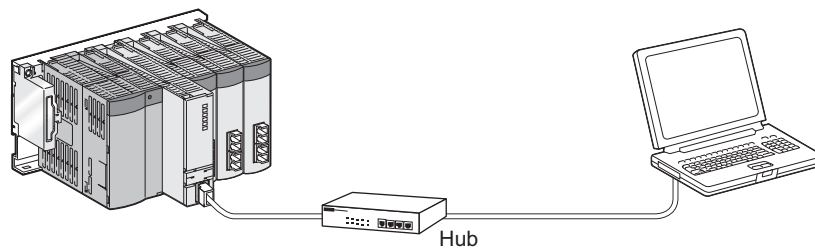

Figure 3.18 Non-direct connection
(2) Indirect connection
- Do not configure the direct connection in a system configuration that connects the Built-in Ethernet port QCPU with an external device using a hub in Figure 3.18.